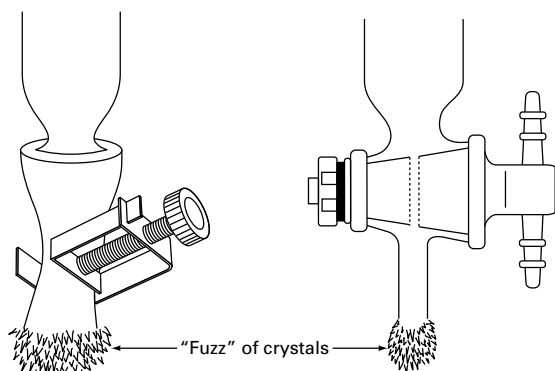

FIGURE 28.2 A growth of crystals occurs as the eluent evaporates.
1. *Occasionally* let one or two drops of eluent fall on a clean glass microscope slide. Evaporate the solvent and see if there is any sign of your crystalline compound! This is an excellent spot test, but don't be confused by nasty plasticizers from the tubing (Fig. 28.2) that try to put one over on you by pretending to be your product.
Sometimes the solvent evaporates quickly and leaves behind a "fuzz" of crystals around the tip (Fig. 28.2). Just use some fresh solvent to wash them down into the collection flask.